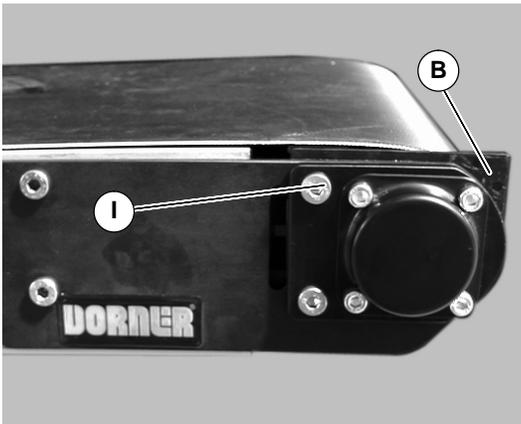

Figure 26
9. Replace with transfer plate spacer plates (B of Figure 26). Insert screw (I) hand tighten.